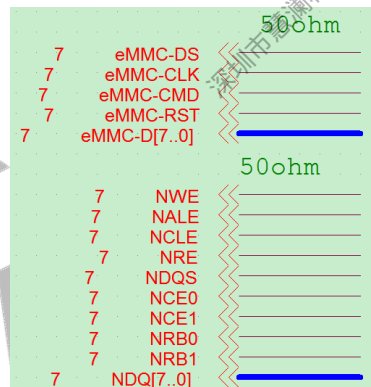

Figure 2-23 NAND/eMMC Signal Line Impedance Label
- Add the impedance requirement descriptions of NAND/eMMC signal traces in the schematic diagram, as shown in Figure 2-23.